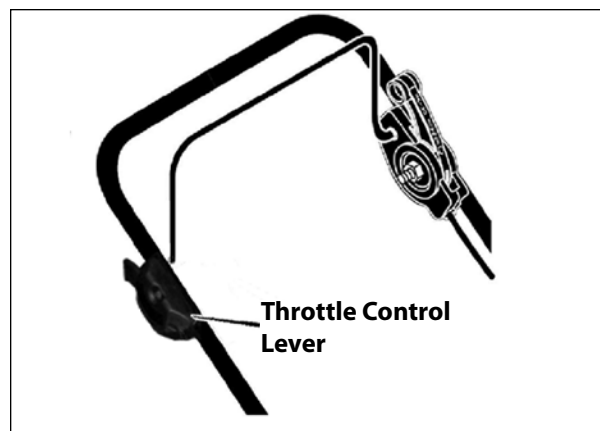

Figure 7: Using the throttle control
1. During normal use, set the throttle control lever in the FAST position to run the engine at full speed. **SEE FIGURE 7.**